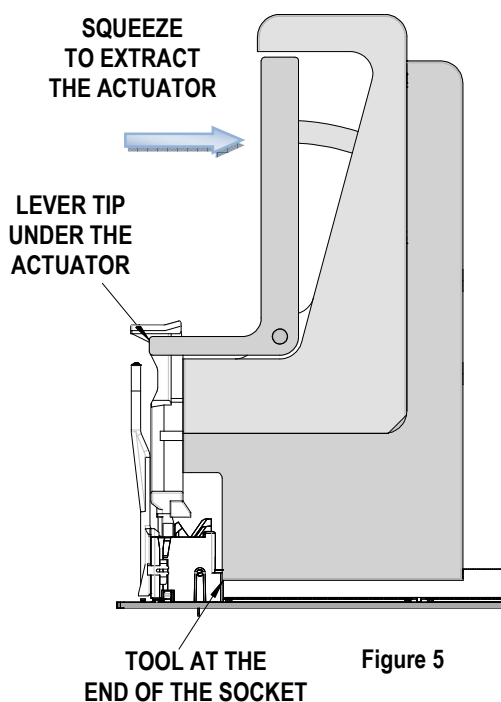

Figure 5
4. As the tool approaches the actuator, make sure the tip goes under the lip of the actuator. When the tool body has reached the end of the memory socket the extraction lever tip will have enough engagement with the actuator to extract it. See Figure 5.
5. With the tool in position as shown in Figure 5, squeeze the extraction lever to remove the actuator from the memory socket.